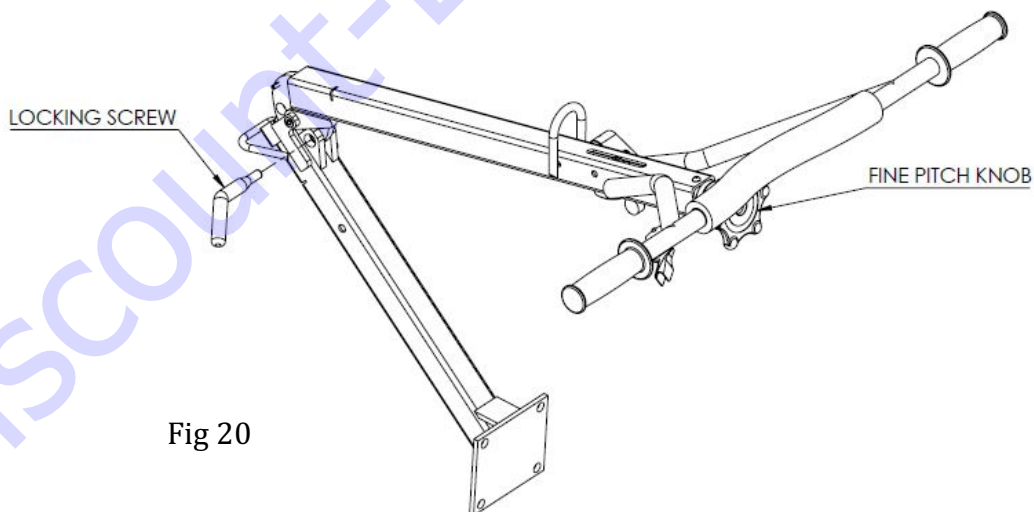

Fig 20
4. Reinsert the locking screw when the handle is in the folded position, turn the locking screw clockwise to secure in place. (See Fig 20)